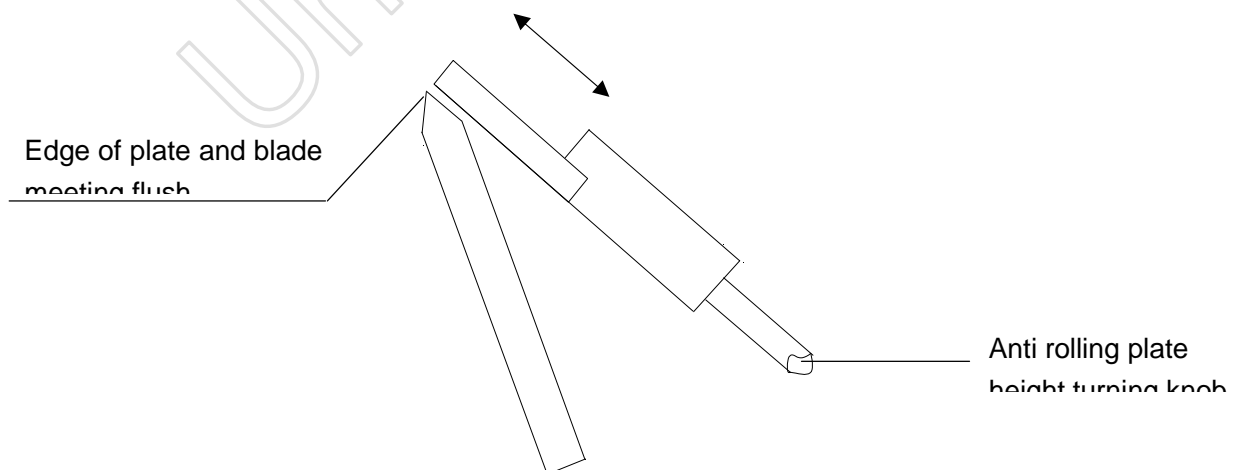

Fig17 Making flush between edge of blade and anti rolling plate
3. Make the edge of plate and edge of blade flush (Fig 17)